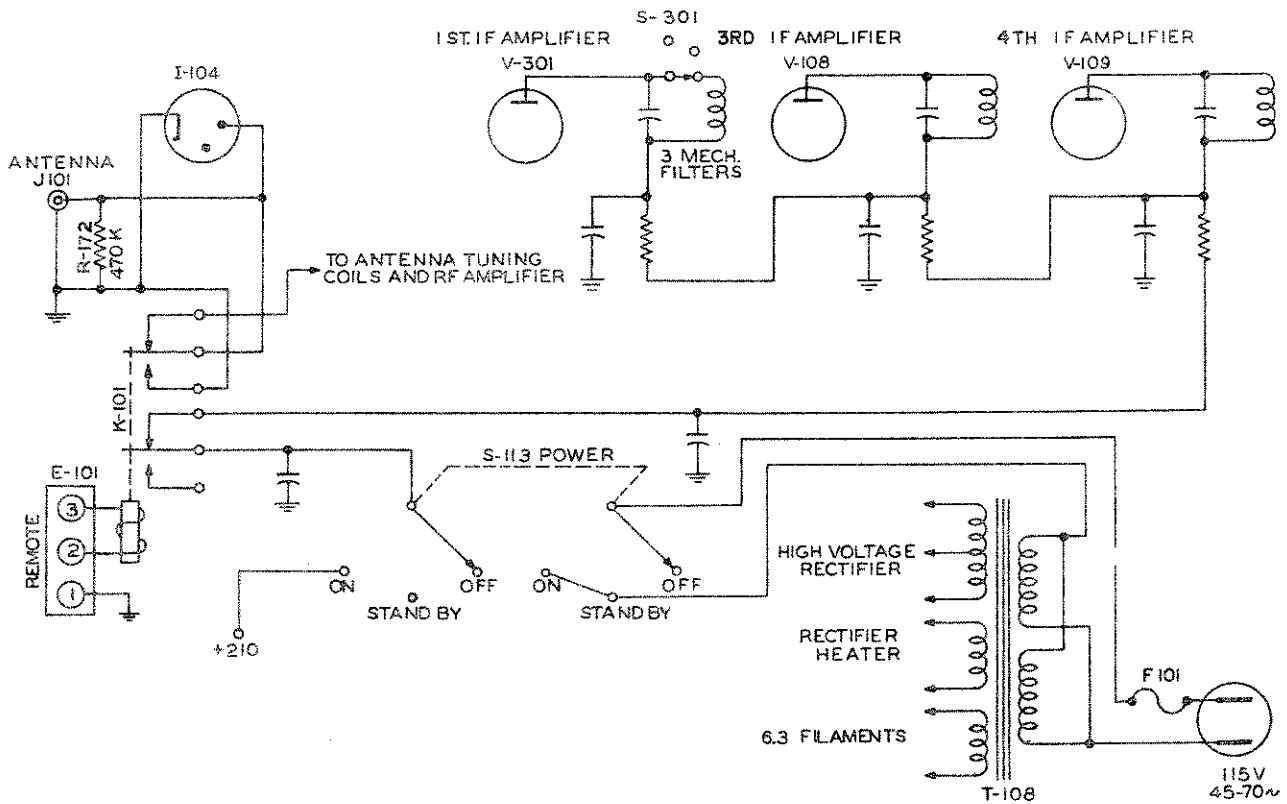

Figure 2-3. 51J-4 On-Off-Standby Functions and Remote Operation Relay Circuit
2.2.5. REMOTE STANDBY CONNECTIONS. - Break-in relay connections are available at terminal strip E101 at the rear of the chassis. Terminals are marked 1, 2 and 3. Terminal 1 is connected to receiver ground. Terminals 2 and 3 are connected to the break-in relay coil, which is rated at 8.5 d-c volts minimum and 135 ohms d-c resistance. During operation, terminals 2 and 3 are usually connected in series with a source of voltage and a set of normally open contacts on the carrier control relay of a transmitter in order to silence the receiver during transmission. When the break-in relay coil is energized, one pair of contacts shorts the antenna to ground; another pair, connected in series with a section of the OFF-STANDBY-ON switch, removes plate voltage from the three i-f amplifier stages. In STANDBY position, the OFF-STANDBY-ON switch also removes plate voltage from the i-f stages. See figure 2-3.